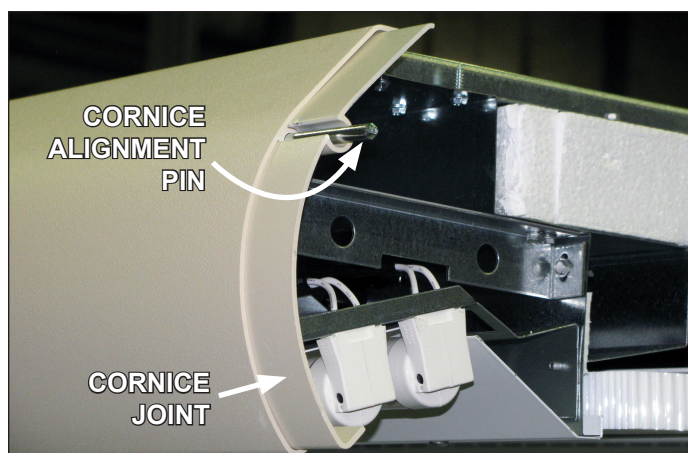

Fig. 5 Cornice joints
7. Tighten all cornice joints as needed (Fig. 5). Working outward from the center of the line-up, loosen the fas-